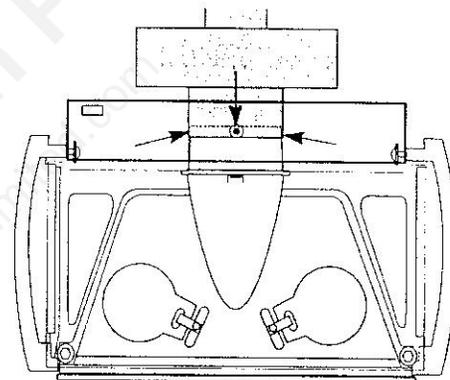

Figure 3-14. Use stub handle phillips screwdriver to fasten the Transition Connector to the flue collar with three sheet-metal screws.
3. Remove any temporary props from below the Transition Connector in the fireplace. Move the heater firebox/shell assembly into position in front of the fireplace. Have a helper support the Transition Connector, and guide its intake and exhaust pipes into the starter pipe and the flue collar on the back of the firebox. Align the three screw holes on the Transition Connector collar with the holes in the flue collar. You may need to drill a 3/8" hole through the top of the shroud panel to access the upper screw. Use a stub handle phillips screwdriver to secure the joint with sheet-metal screws. See Fig. 3-14.